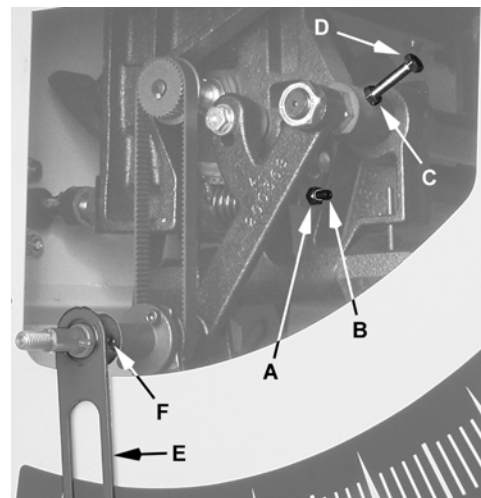

Figure 46
6. Referring to Figure 46, loosen the *lock nut* (A) and turn *set screw* (B) on the front trunnion *in* or *out*. The *set screw* should stop against the front trunnion bracket when the blade is 90° to the table.
9. Remove the front panel per Step 5. Loosen *lock nut* (C, Fig. 46) and turn *set screw* (D, Fig. 46) on the front trunnion *in* or *out*. The hex cap screw should stop against the table when the blade is 45° to the table.
10. Check the accuracy of the *pointer* (E, Fig. 46) on the angle scale and adjust, if necessary. Loosen *set screw* (F, Fig. 46) to change the pointer position.